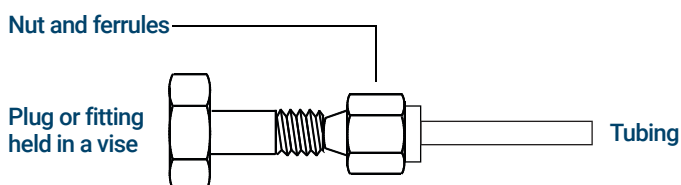

Figure 25. Assemble the fitting
- 3 Push the tubing into the stainless steel plug. See **Figure 25**.